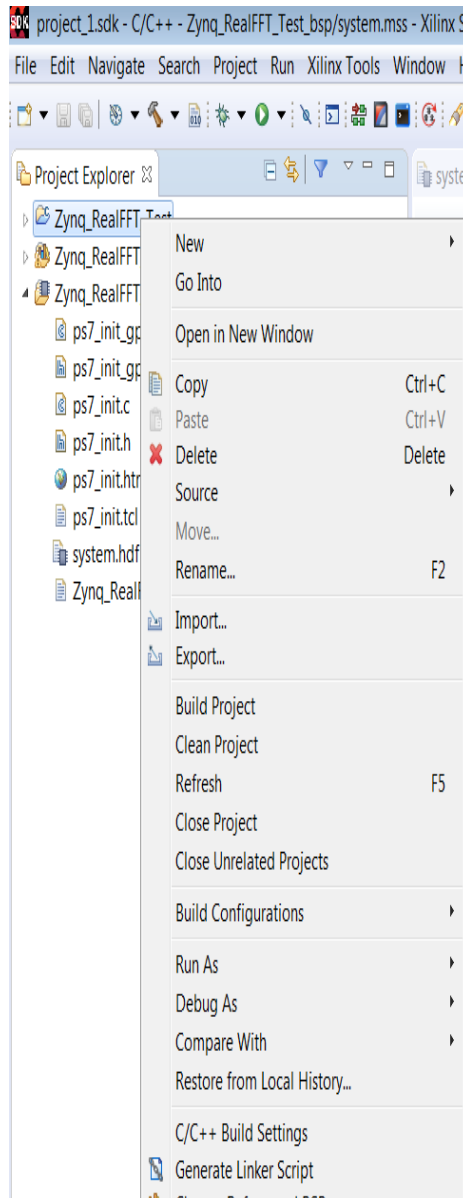

Figure 10-42: Specify C/C++ Build Settings
- a. Right-click the `zynq_realfft_test` project in the Project Explorer pane and select **C/C++ Build Settings** (Figure 10-42).